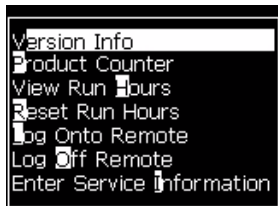

Figure 4-14: Data Logging Menu
The *Data Logging* menu (Figure 4-14) gives you access to the printer operation data and allows remote access to the data.
- 1 Open *Data Logging* menu (see Figure 4-14 on page 4-10).